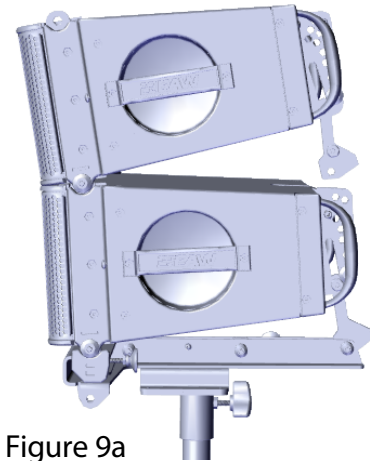

Figure 9a
- Swing down the rear rigging and pin chosen splay angle using pin on the first cabinet (Figure 9a-9b).